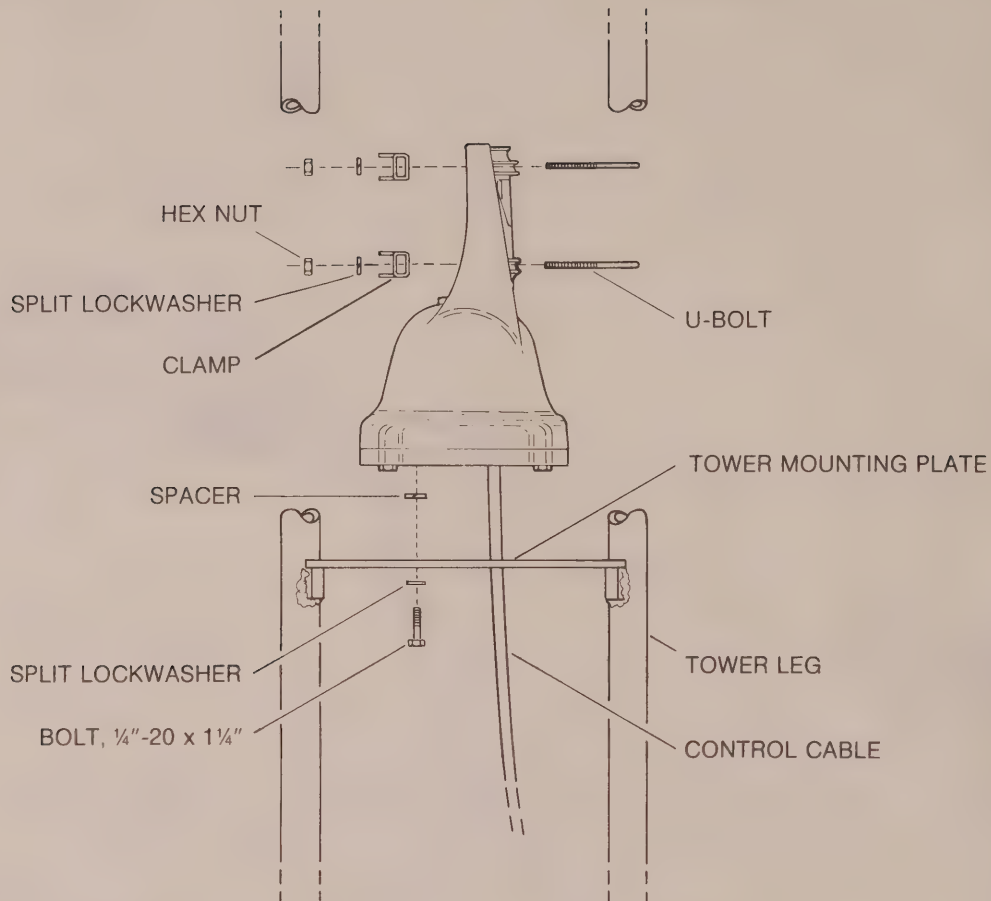

Figure 4
3. The rotator is attached to the tower plate by means of four (4) bolts and lockwashers (see Figure 4). Spacer washers must be used between the rotator and plate for clearance of the rotator housing bolt heads. The flat tower plate must be drilled in four (4) places using the template provided with this manual unless the tower plate is already properly drilled. A fifth hole must be drilled or cut to clear the control cable.
4. Tighten the four (4) bolts, but not to final tightness. Observe how the rotator turns. It must rotate in such a manner as to turn the mast concentrically to the top bushing.
5. Trial assemble the mast to the top of the rotator using the U-bolts, nuts and lockwashers through the rotator and clamps as shown in Figure 4. The maximum mast diameter that may be used is $2\frac{1}{16}$ " O.D.. We recommend $1\frac{1}{2}$ " nominal steel pipe with 1.9" O.D. in standard wall thickness of .145". For stacked arrays or very large beams, we recommend extra heavy-duty wall thickness .200". Both steel pipes can be purchased to specification ASTM-120.